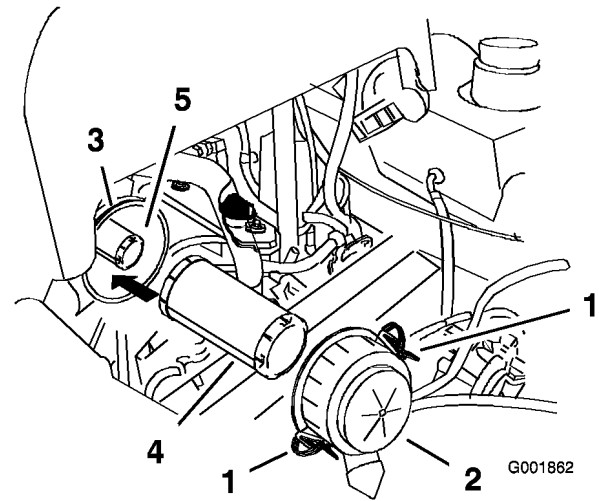

Figure 40
1. Do not clean the paper filter. Replace it after 200 operating hours (Figure 40).
2. If the safety filter is being replaced, carefully slide it into the filter body (Figure 40).
3. Carefully slide the primary filter over the safety filter (Figure 40). Ensure that it is fully seated by pushing on the outer rim of the filter while installing it.
4. Release the latches on the air cleaner and pull the air cleaner cover off of the air cleaner body (Figure 40).
6. Gently slide the primary filter out of the air cleaner body (Figure 40). Avoid knocking the filter into the side of the body.
4. Install the air cleaner cover with the side indicated as UP facing up and secure the latches (Figure 40).